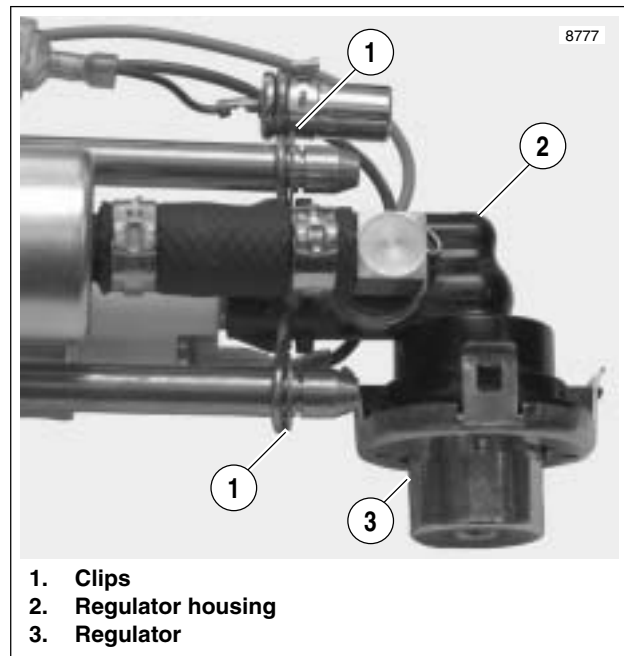
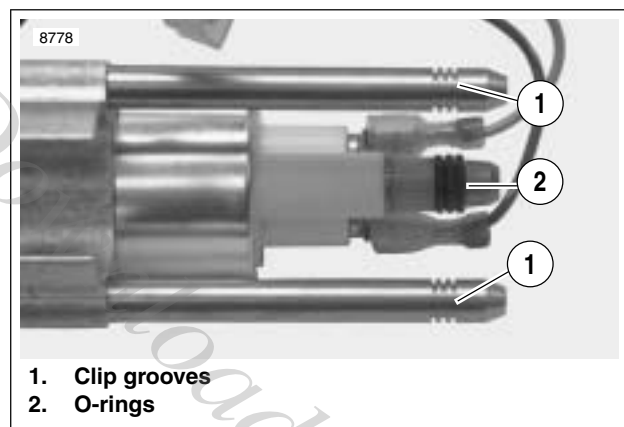

Figure 4-90. Fuel Pump Clips
Figure 4-91. Regulator Housing O-rings
3. See Figure 4-90. Remove fuel pump clips (1).
4. Pull regulator housing (2) from fuel pump assembly.
5. See Figure 4-91. Discard regulator housing o-rings (2).
7. Install **new** fuel filter (1) on fuel filter hose.
9. Install **new** fuel filter hose with 90° bend towards fitting (2).
10. See Figure 4-91. Install **new** regulator housing o-rings.
13. See Figure 4-90. Install clips (1) into center grooves.
3. See Figure 4-90. Remove clips (1).
10. See Figure 4-90. Install clips (1) into middle grooves.
15. See Figure 4-90. Install clips (1) into middle grooves.